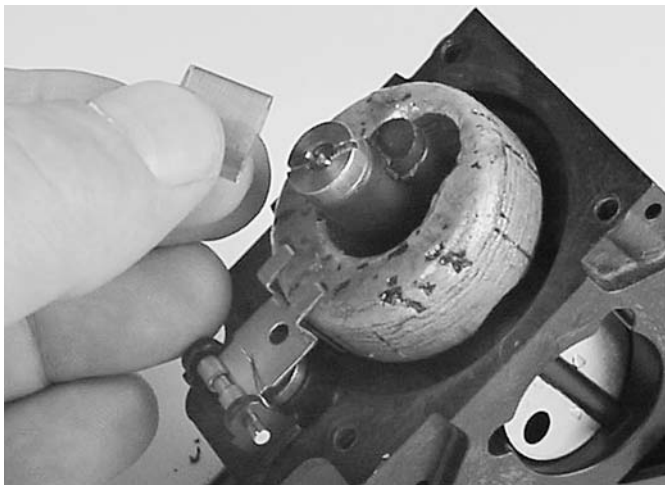

Fig. 43
7. Remove the fuel filter screen from the fuel nozzle (Figure 43).